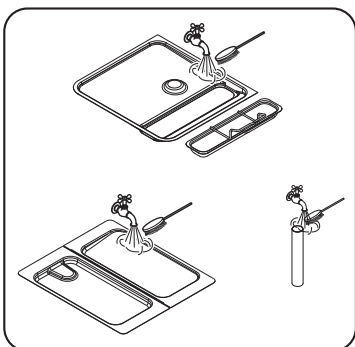
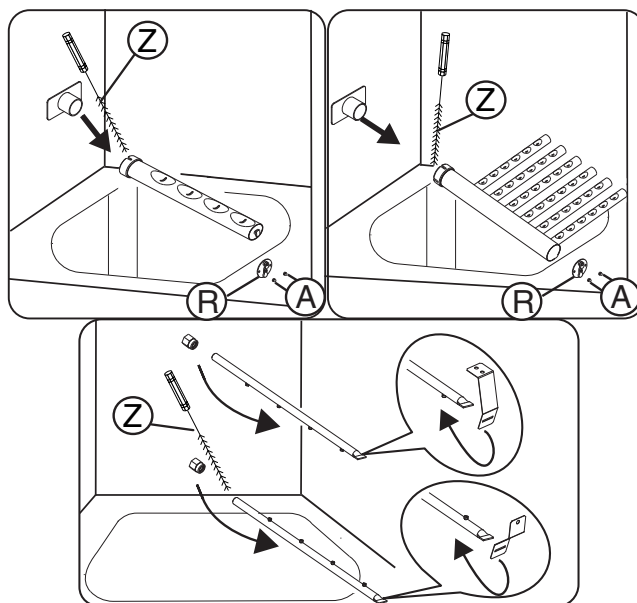

Figure 27 Remove and cleaning filters
Figure 28 Remove and cleaning arms
- Open the machine doors and remove the filters, overflows (Figure 27) and prewash, wash and rinse arms (Figure 28).
- In particular, for prewash, wash and rinse arms use a warm soapy water and a soft brush "Z" (Figure 28).
- For prewash and wash arms remove the end plugs "R" unscrew nuts "A" and rinse them (Figure 28).